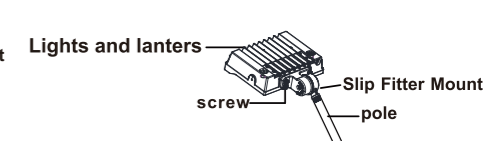

figure 3.4
Step 3: Loosen screws; Adjust fixture angles as per actual demands and tighten screws later; Angles of the fixture is adjustable (pass the bracket through mounting surface, fix it with screws, then connect the wires as per proper wiring requirements). (figure 3.4)